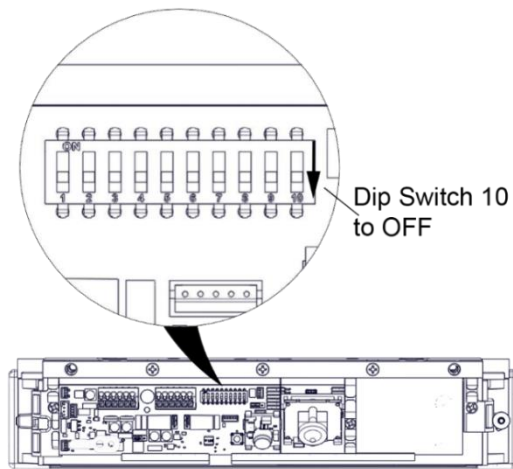

Figure 42. Setting Dip Switch 10 to OFF
6. SET Dip Switch 10 to “OFF” (see Figure 42, “Setting Dip Switch 10 to OFF”).